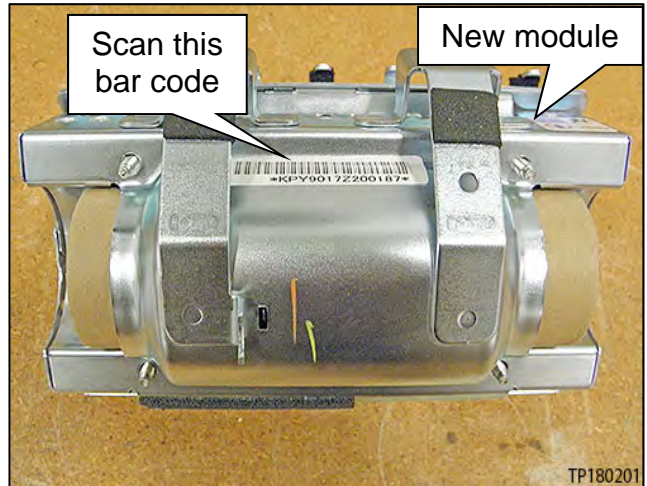
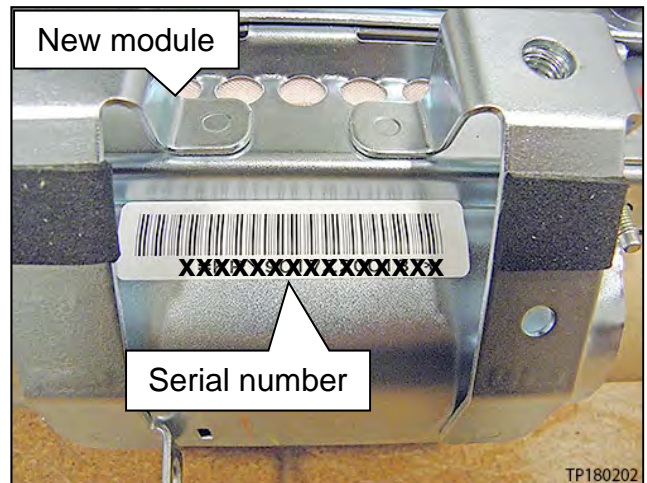

Figure 10
Figure 11
10. Locate the bar code sticker on the new module (Figure 10).
11. Use the Quick Scan Tool to scan the bar code (serial number) on the new module (Figure 10 and Figure 11).